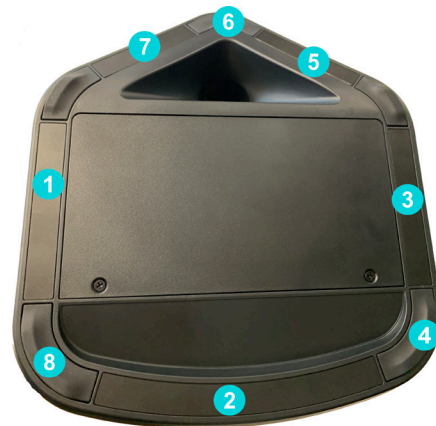

Figure 13. Rubber Feet and Bottom Inlays Location
2.2 The Rubber Foot ④ ⑥ ⑧ and Bottom Inlay ① ② ③ ⑤ ⑦ are secured with Pressure Sensitive Adhesive - using a spudger, lift the Feet and Bottom Inlays up and grasp and pull them off. See Figure 13.